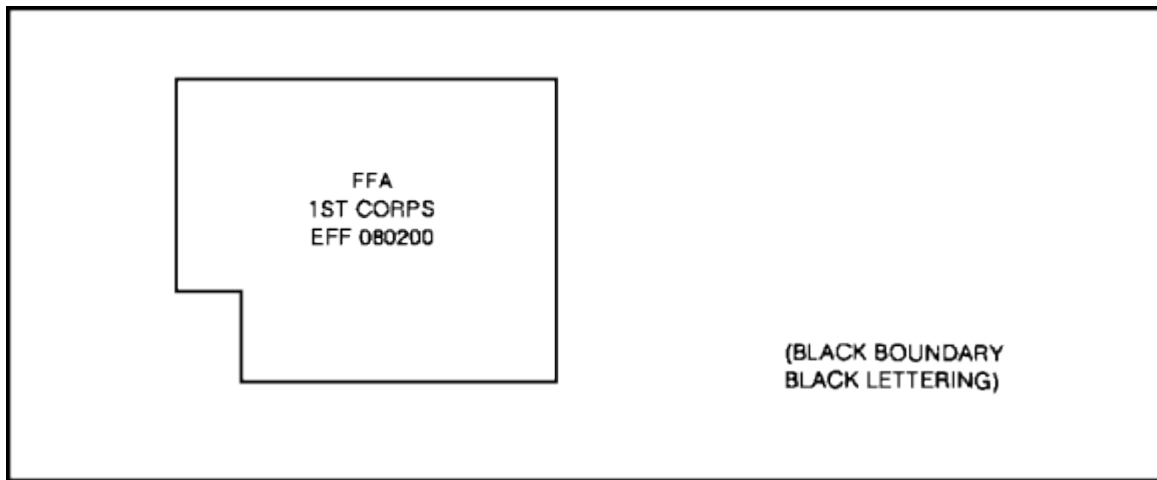

Figure 1-48. Fire support coordinating measure symbol
7. You use the symbol shown in Figure 1-48 to indicate which of the following fire support coordinating measures?